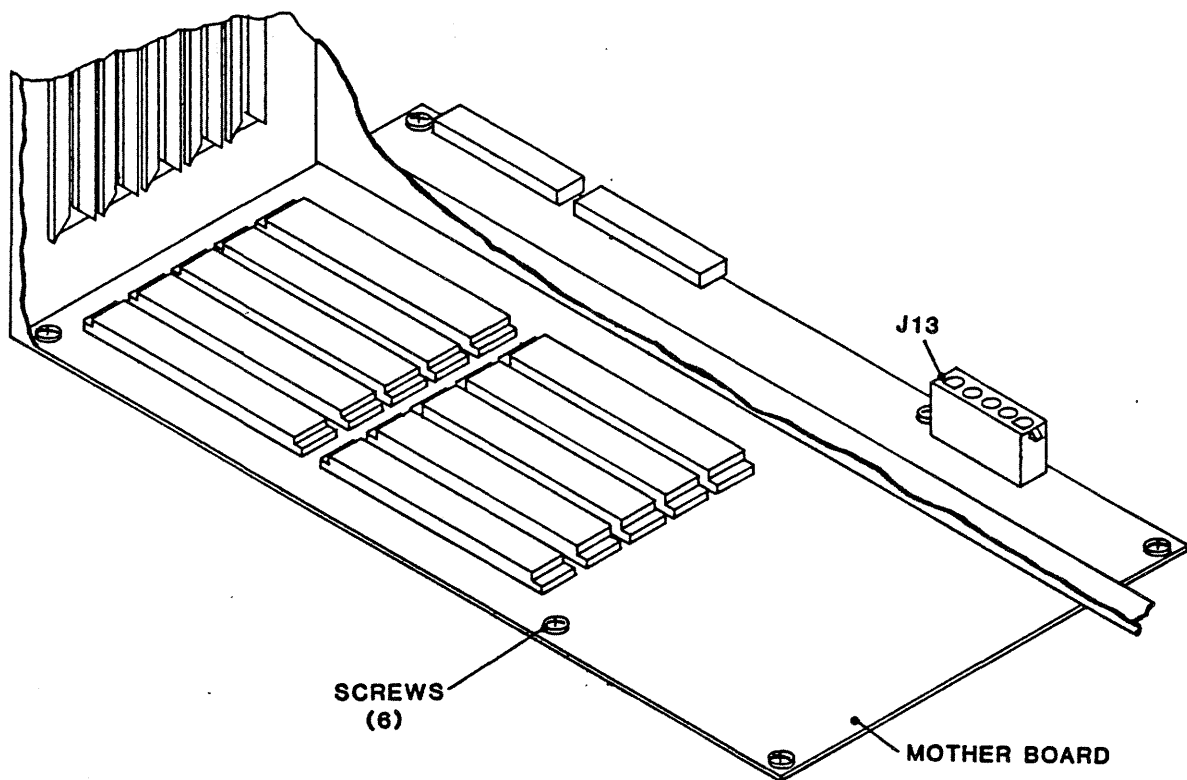

**Figure 4-8 Takeup Arm Retract and Pivot Sensor Assembly**
**4.3.8 TAKEUP-ARM RETRACT AND PIVOT SENSOR ASSEMBLY (Fig. 4-8)**
#### 4.3.20 RETRACT AND PIVOT SENSOR (TAKEUP) (Fig. 4-8)